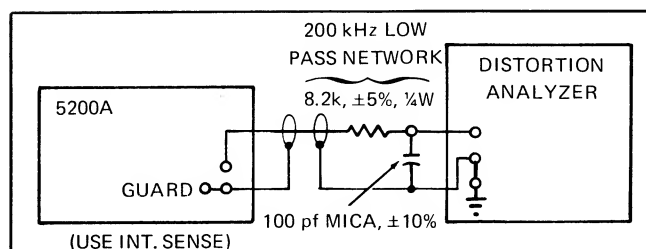

Figure 4-4A. LOW FREQUENCY DISTORTION TESTS
- c. Connect the equipment as shown in Figure 4-4A.